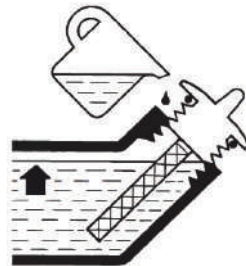

Figure 4: Engine Oil Correct Level
4. Do not overfill, if oil level is too high, oil will drain out through the fill plug. See correct oil level in Figure 4.
- The engine is filled with engine oil (see Figure 4: *Engine Oil Correct Level*)